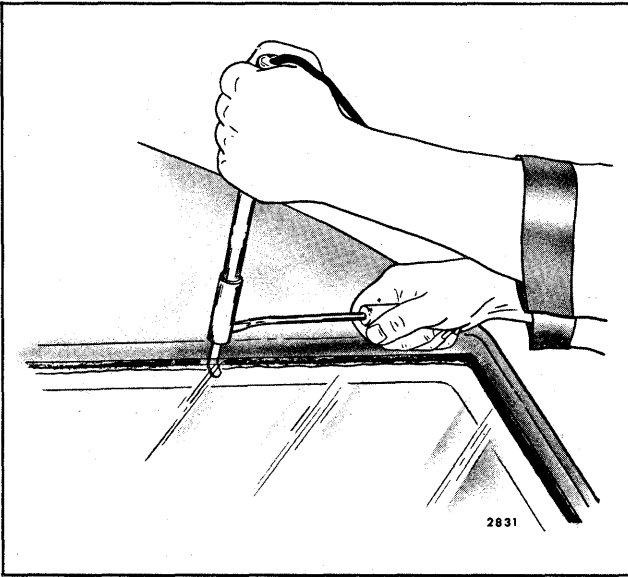

Fig. 11-7-Electric Hot-Knife Removal Method
5. To complete removal of original urethane installation, use of 750 degree F. hot knife No. J-24709-1 or equivalent or cold knife No. J-24402 or equivalent is recommended (Fig. 11-7).